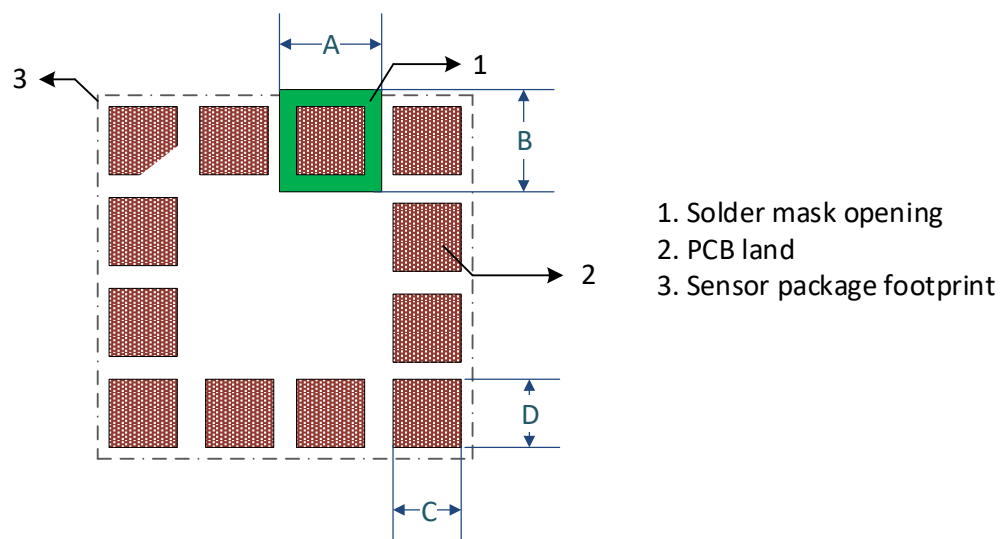

Figure 11: PCB land and solder mask recommendations for sensors with LGA package
- The solder mask opening external to the PCB land is highly recommended. Please refer to figure 11.